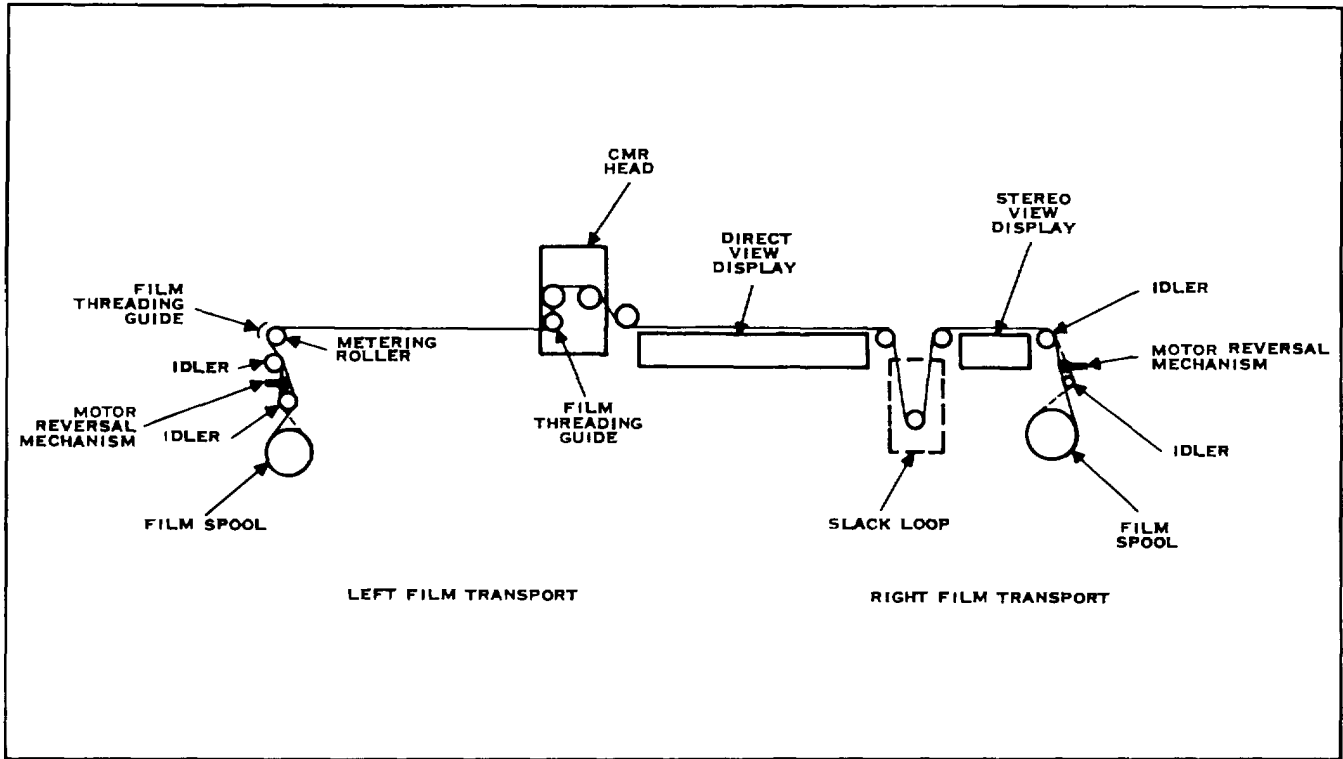

Figure 3-9. Film Threading Diagram
- k. Pull film off film spool and thread around two idler rollers and metering roller as shown in figure 3-9. Note that when film unwinds from right side of spool, it passes on left side of first idler and when it unwinds from left side of spool, it passes on right side of first idler. Flip emulsion reversal mechanism out of film path.
- m. Raise direct-view table platen. Thread film through CMR head and direct-view platen as shown in figure 3-9. Lower, but do not lock, direct-view table platen.
y. Thread film into right transport as shown in figure 3-9 and flip motor reversal mechanism out of film path. If film passes on left side of second idler, thread film to right side of spool. If film passes on right side of second idler, thread film to left side of spool.